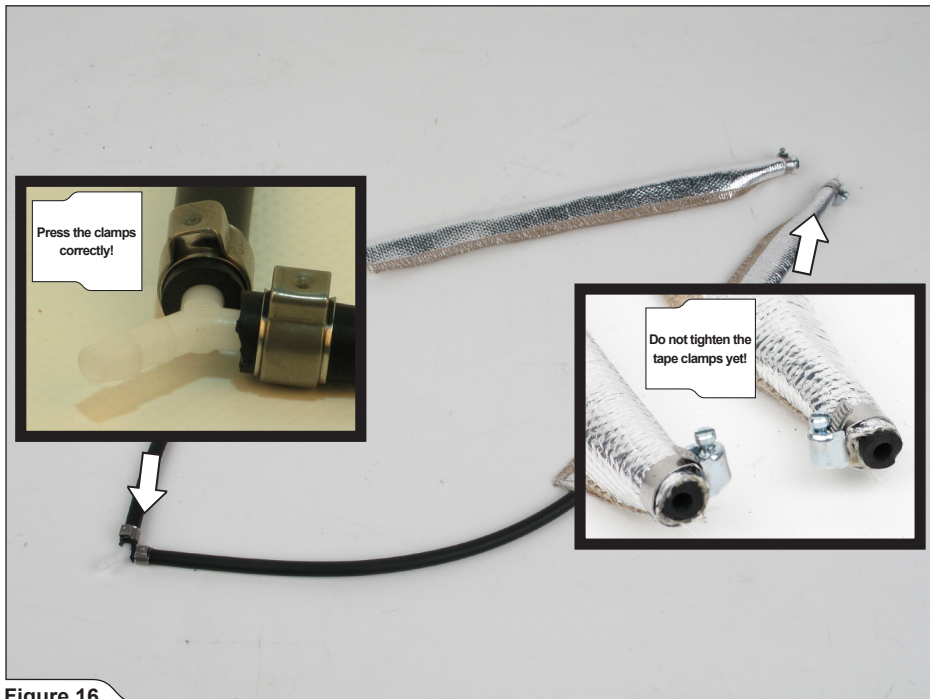

Figure 16
1. **For vehicles with original sports exhaust system only:** assemble the heat protection onto the rubber vacuum tubes using tape clamps; bind the other ends of the rubber tubes, using plastic Y distributor and clamps, as shown (**Figure 16**).